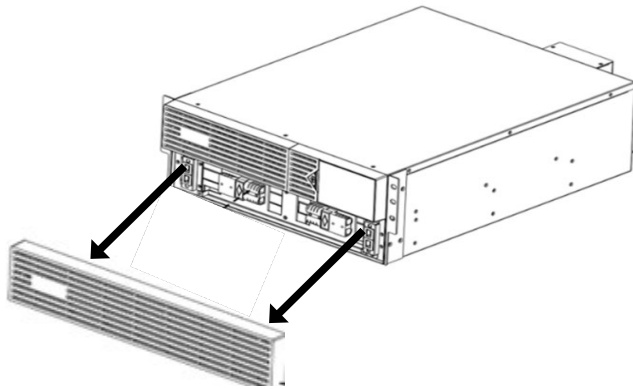
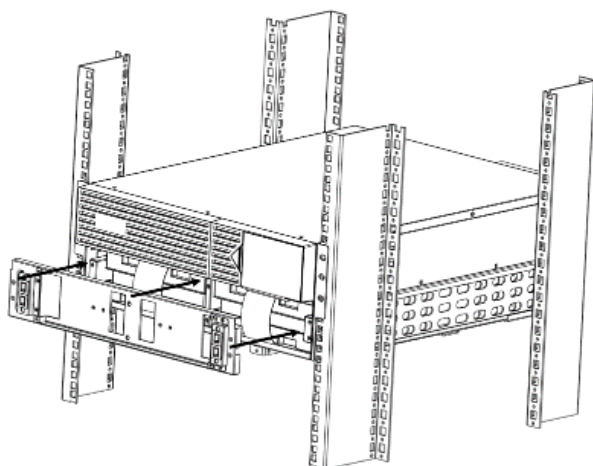

Figure 1
Figure 9
1. Pull the front panel cover of the battery housing cage from the UPS. (Fig. 1)
6. Re-attach the battery retention bracket (Fig. 9)
Remove the battery cover panel of the UPS by pulling the panel out from the front of the UPS, no tools are required, (FIG. 1). Align the Black Anderson connector and push together. Reattach the front panel battery cover, (FIG. 9).